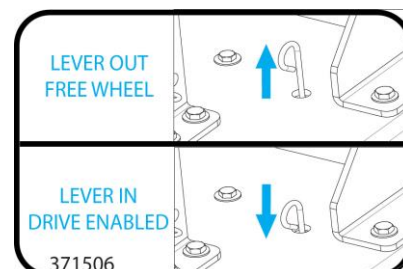

Fig. 3
**FREE WHEEL LEVER:** Located on top of machine next to the height adjust. Pull the lever out to free wheel and push it in to allow the drive to be engaged. (See Fig. 3)